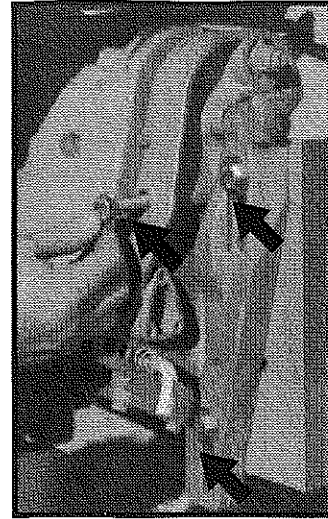

FIG. 4
**WHEN MOUNTING A 2-PIECE TRANSOM MOUNT MOTOR TO THE BA-130, USE FOUR BOLTS (TWO ON EACH SIDE) THROUGH THE 2-PIECE MOUNTING BRACKETS AND TWO BOLTS (ONE ON EACH SIDE) THROUGH THE MAIN STRUCTURE OF THE MOTOR. (FIG. 4)**